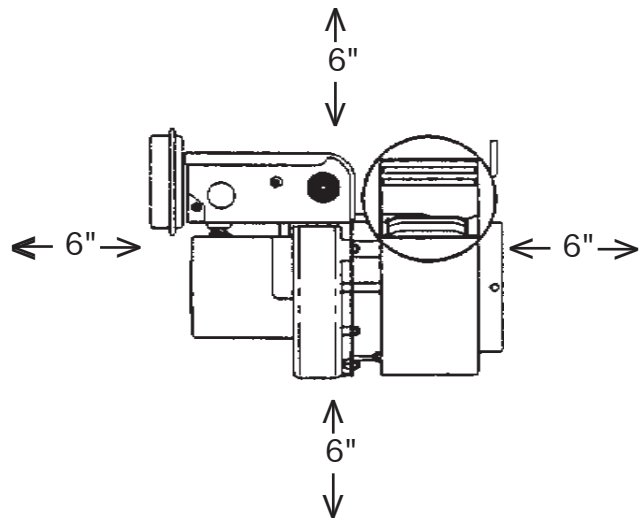

Fig. 3 Minimum clearances to power vent motor
2. To prevent vibration, securely support power vent motor from ceiling or joist using a plumber's strap fastened to the vibration mounts. As an alternative means of support, a wall bracket may be used to support the underside of the motor. Observe a 6" clearance to combustibles on all sides of the power vent motor. (Fig. 3)